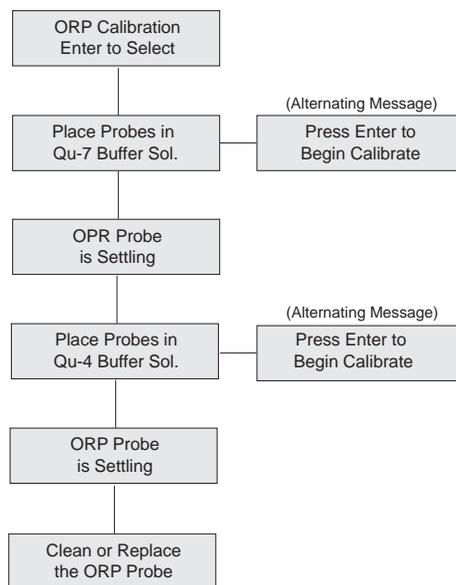

Figure 4.6 ORP Calibration Menu
4. At the System Controller controller, press the Enter key from any place on the Top Level Display, you will be at the Setpoint Menu. Use the arrow keys to scroll to the Operation Menu and press the Enter key. Use the arrow keys to scroll to the Probe Calibrate sub-menu. When you press the Enter key, you will be prompted whether you wish to continue with probe calibration. After selecting yes, the menus will prompt you through the calibration process, as shown in Figure 4.6. Be sure to let the probes settle in the calibration solution at least one minute before pressing Enter to begin calibration.